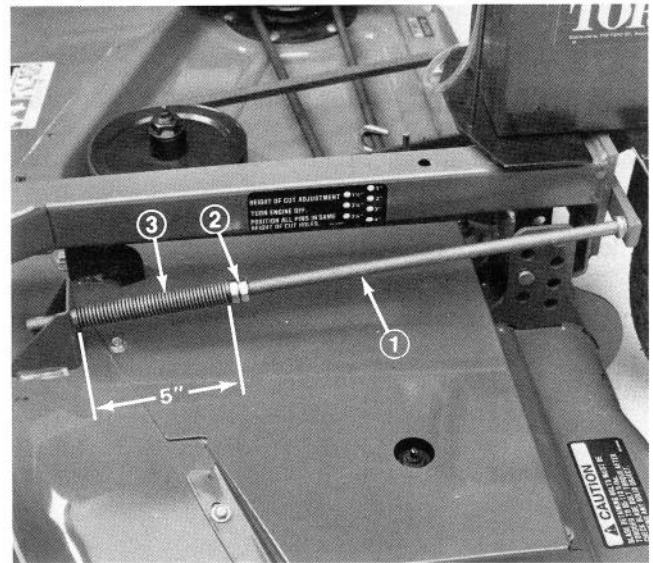

Figure 19
3. Loosen jam nuts on each adjusting shaft and remove engine to deck drive belt (Fig. 19).
6. Install belt to clutch and drive pulley (Fig. 19).
7. Tighten jam nuts on adjusting shafts until springs are compressed to a length of 5 in. measured between bracket and jam nuts (Fig. 19).